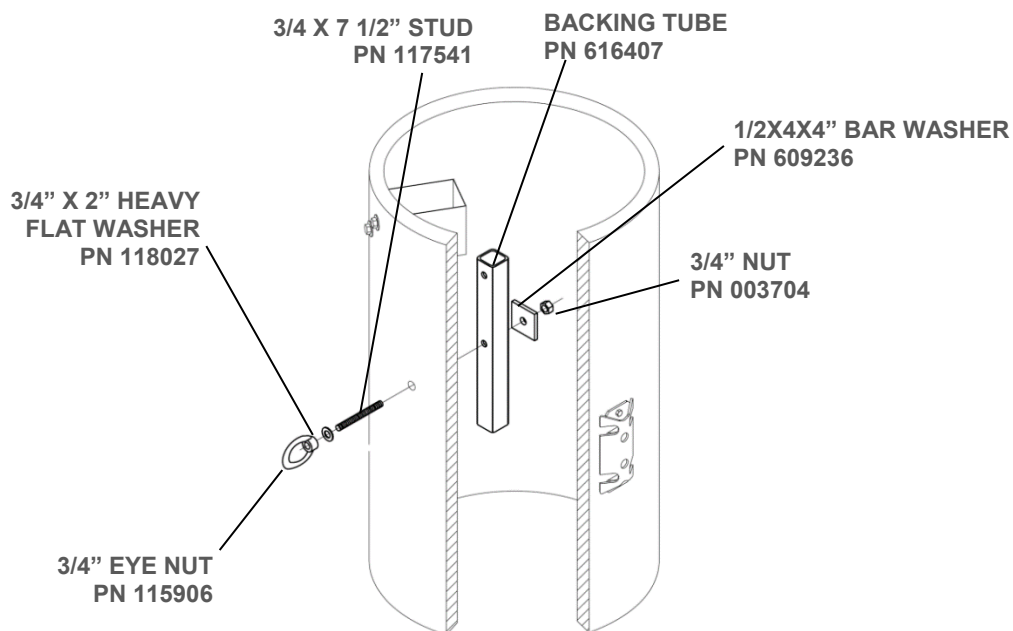

Figure 27 - Pullout Assembly
5. The REACT 350® Narrow must be pulled out to its original length after each impact. The Pullout Assembly must be attached prior to this procedure and removed and stored when finished (Figure 27).